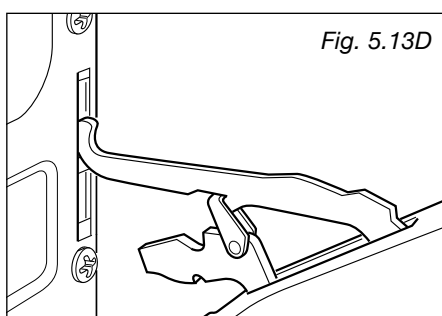

Fig. 5.13D
- Withdraw the upper hinge pins from their location (fig. 5.13D).